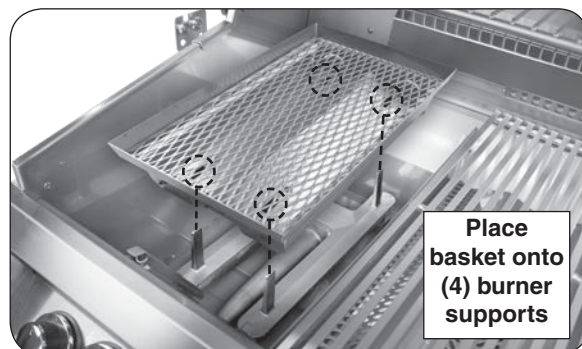
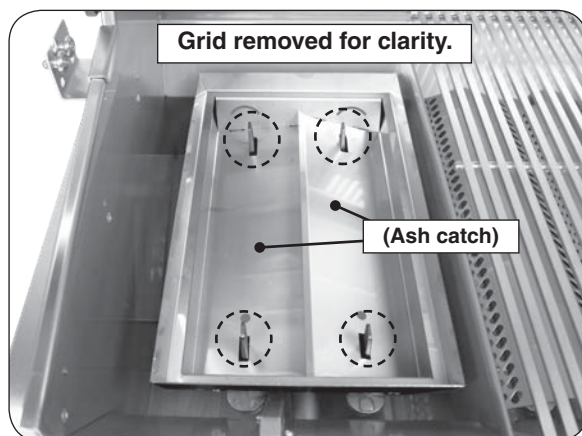

Fig. 35-3 Place basket onto burner
Fig. 35-4 Basket placement detail
3. Place basket onto burner in place of flavor grid. Align basket cutouts over burner supports (see Fig. 35-3 and Fig. 35-4).